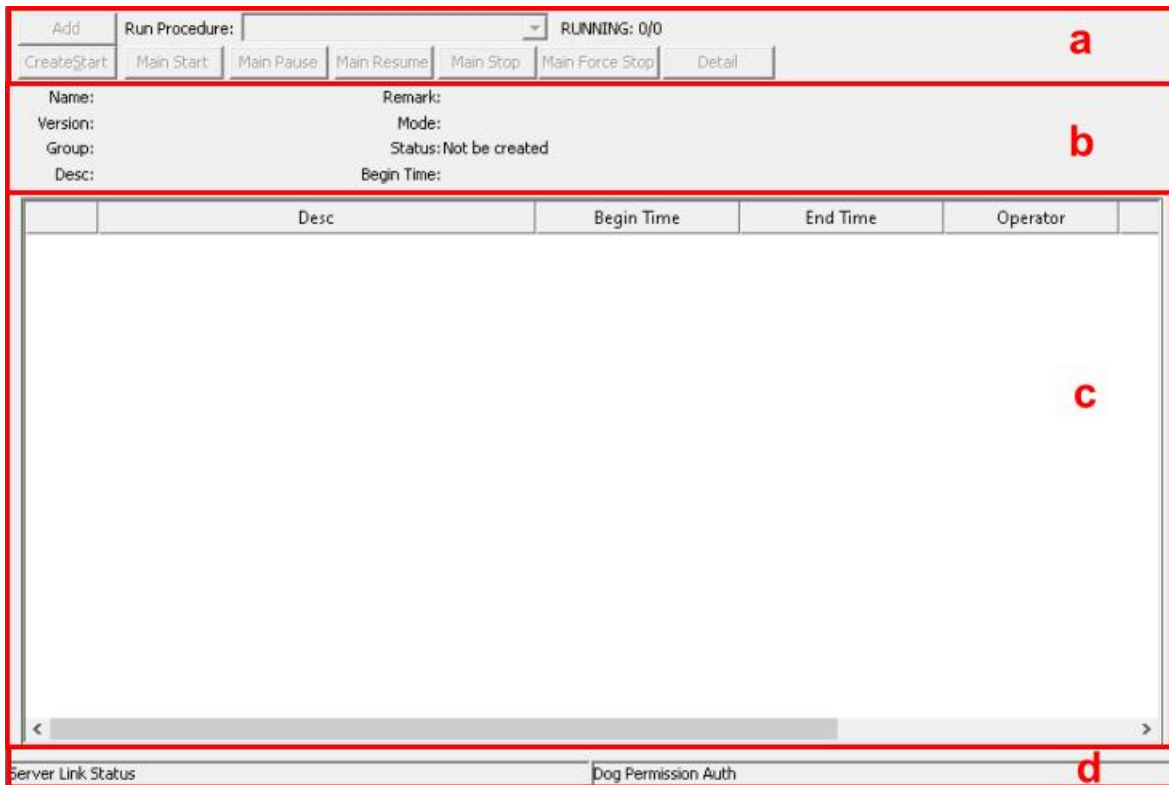

Figure 2-1 Introduction to the Control
2. The cursor will be displayed as  on the screen. Hold down the left mouse button and drag to set the size of the control and then release the left mouse button to complete the creation, as shown in Figure 2-1.